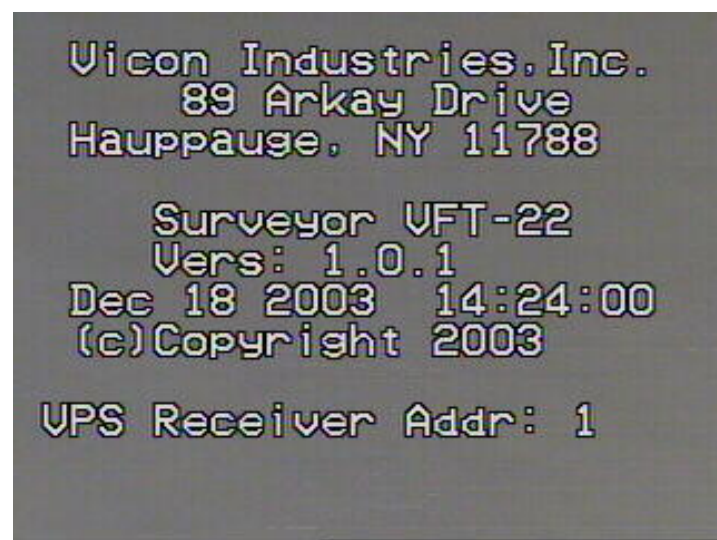

Figure 14
4. The SVFT-M then switches to the opening screen (Figure 14). This screen will display the camera dome program version, current date/time and some of the current DIP switch settings. Upon completion of homing, the SurveyorVFT is ready to verify proper operation. (Note: Figure 14 is only a sample screen.)
5. The SVFT-M then switches to the opening screen (Figure 14). This screen will display the camera dome program version, current date/time, the current address and a request to send communications to baud detect. Move the joystick or press buttons to send commands and commence auto-baud detect.